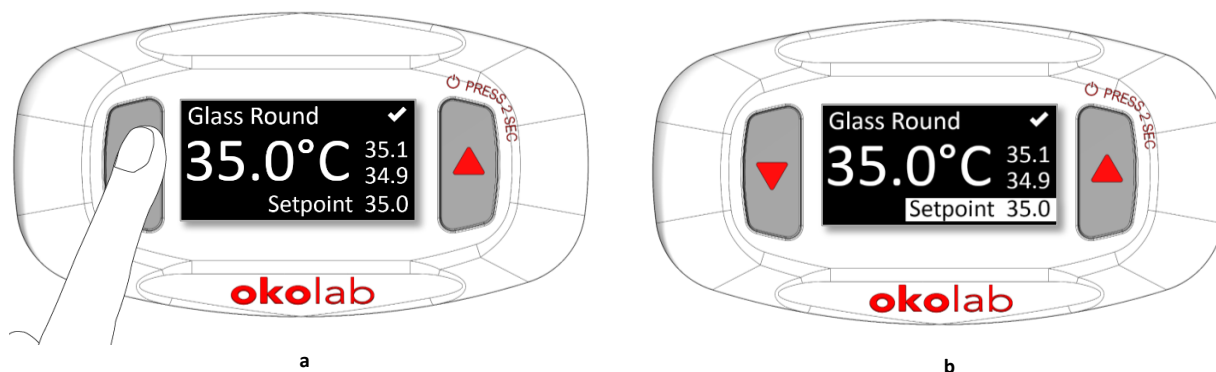

Figure 8. Definition of the Setpoint (a - b).
1. Press the UP or DOWN button for 1 second (as indicated in Figure 8 a) and the *Setpoint* will highlight (see Figure 8 b).